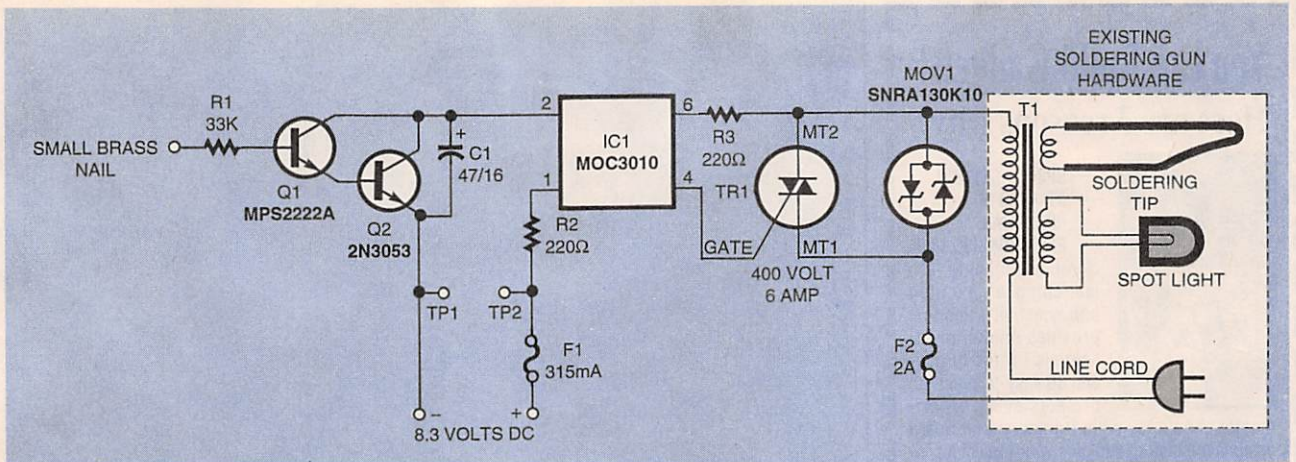

Fig. 1. The Solid-State Soldering Gun uses a touch-switch circuit to sense when to turn the unit on and off.
**Circuit Description.** The schematic diagram of the Solid-State Soldering Gun Switch is shown in Fig. 1. The common-mode-noise signal is picked up by a metal contact that is located at the top of the soldering gun's handgrip. That voltage is coupled by R1 into a Darlington-pair amplifier made up of Q1 and Q2. That circuit has a high input impedance with very high gain. The type of transistor chosen for Q2 has a low